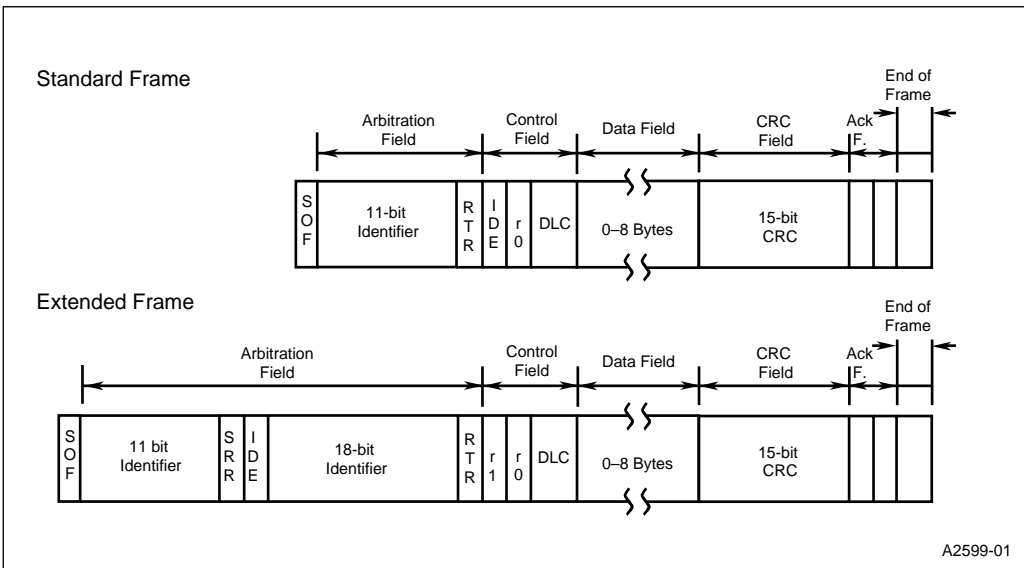

Figure 7-3. CAN Message Frames
Figure 7-3 illustrates standard and extended message frames. Table 7-6 and Table 7-7 describe their contents and summarize the minimum message lengths. Actual message lengths may differ because the CAN controller adds bits during transmission (see “Error Detection and Management Logic” on page 7-9). After each message frame, an intermission field consisting of three recessive (1) bits separates messages. This intermission may be followed by a bus idle time.